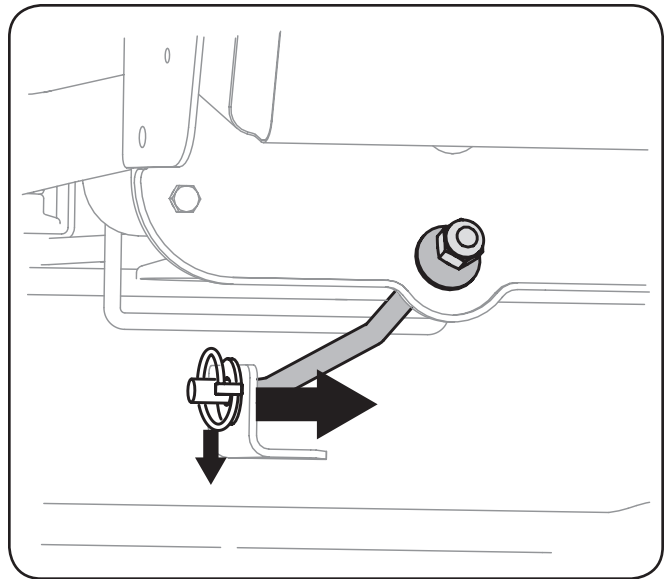

Figure 7-5
10. Remove the cotter pin from the end of the stabilizer rod and slide the stabilizer out of the hanger bracket on the deck. See Figure 7-5.
- a. With the deck beneath the mower frame, attach the stabilizer rod. See Figure 7-5.